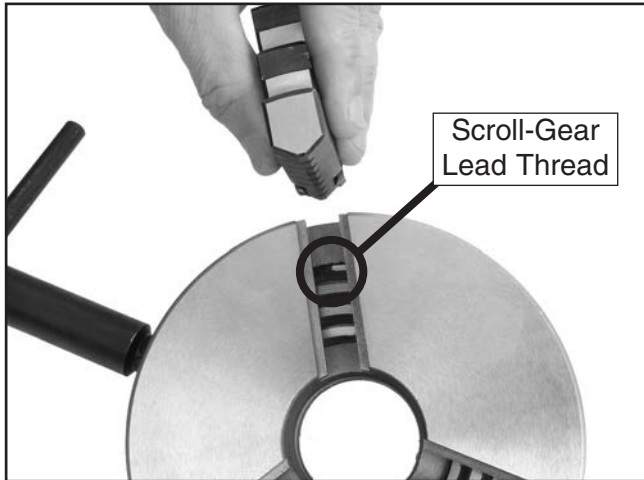

Figure 27. Installing jaw into the 3-jaw chuck.
- Rotate the chuck key clockwise until you see the tip of the scroll-gear lead thread just begin to enter the jaw guide, as shown in **Figure 27**.